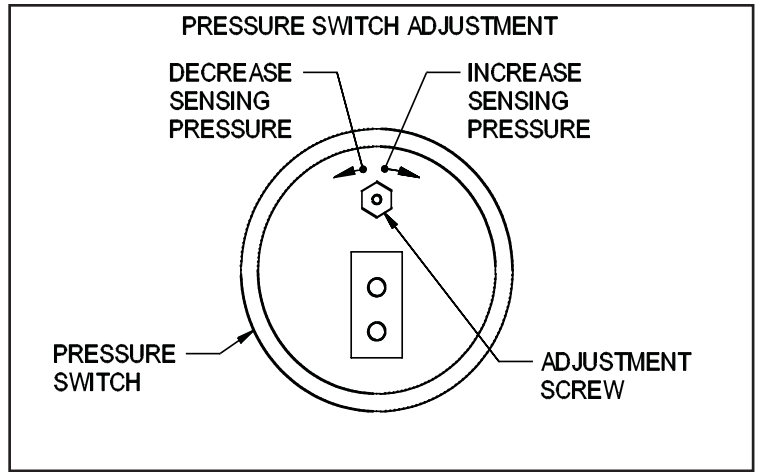

Figure 6
3. Rotate the adjustment screw an additional 1/4 turn counterclockwise to ensure proper switch setting. (See Figure 6)